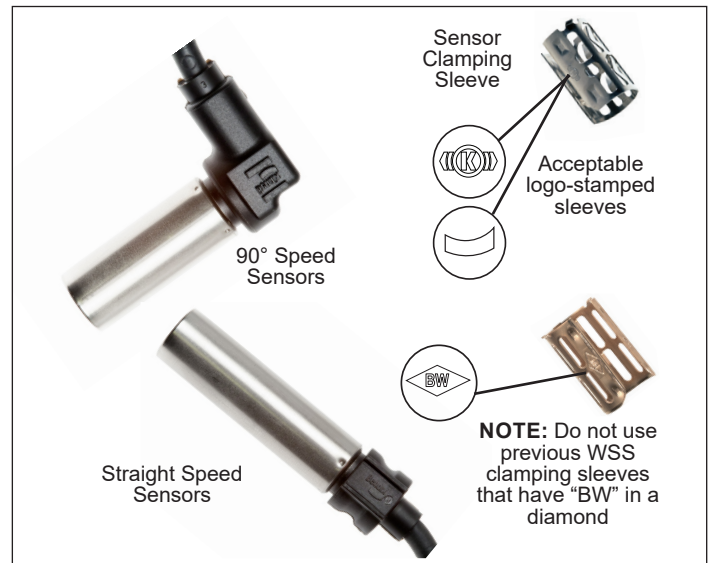

Figure 3 – Bendix® WS-24™ Wheel Speed Sensor
- **WSS:** See Figure 3. Located at select hubs, WSS detect the rotation of individual wheels and send an electrical signal to the ECU proportional to the rotational velocity. The WSS connectors, SR and SL, are used for detecting wheel speeds. Regardless of the mounting methodology of the module, the SR WSS is always curb side, and the SL WSS is always road side.